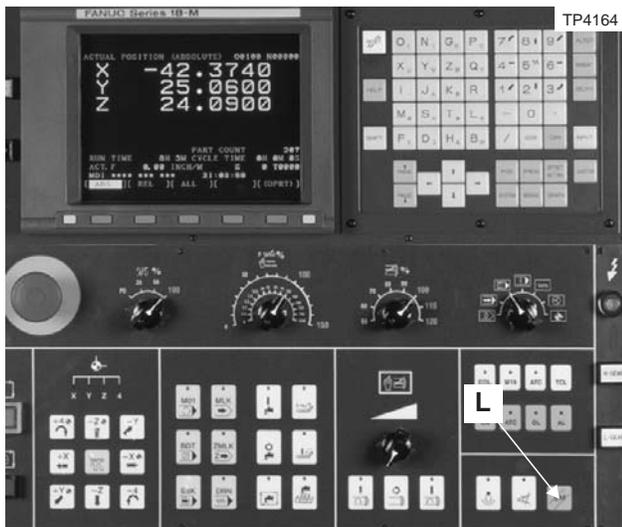

Figure 5.10 - EM Push Button (Fanuc Control)
Yellow EM push button “L”, Figures 5.10 and 5.11 is an overtravel bypass switch that allows the operator to jog an axis or axes out of an overtravel condition.
2. Press **and hold** yellow EM push button “L”, Figure 5.10 or 5.11.